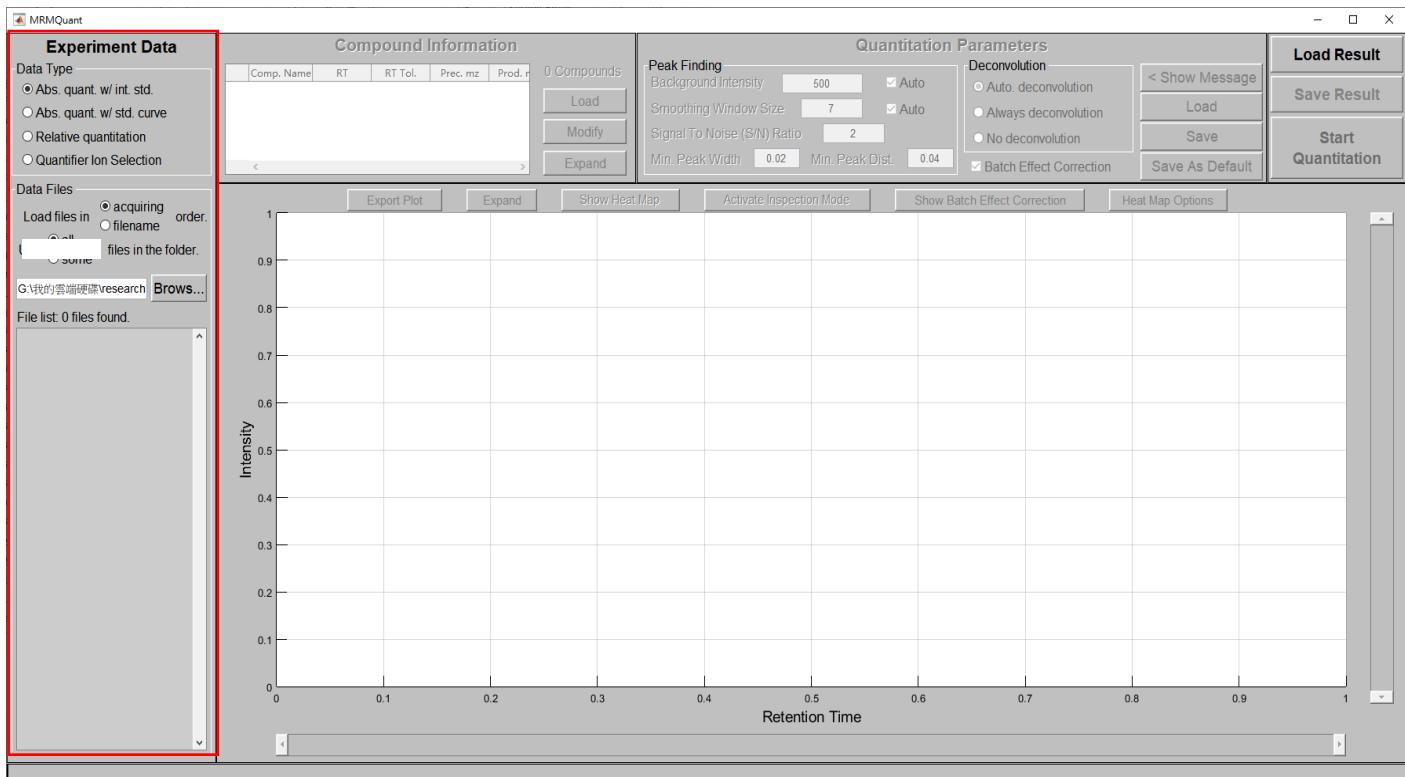

Figure 2. The graphical user interface of MRMQuant and the Experiment Data panel.
Figure 2 illustrates the workflow of MRMQuant. Briefly, the quantitation procedure starts from selecting a suitable experiment type followed by loading MRM sample files and a method file which provides the necessary information about the targeted compounds into the system. After setting the quantitation parameters, peaks in each of the sample files are detected and the ones corresponding to the targeted compounds are quantitated. Once the targeted compounds being quantitated in all the sample files, batch effect correction will be conducted if quality control (QC) samples are included in the sample files. Afterward, quantitation result is displayed for inspection and manual correction of the quantitated peaks can be made
Figure 2. System Flowchart. The gray boxes in the right-hand side list the detailed functions in the peak quantitation and in the manual correction modules, respectively.
MRMQuant can be invoked by two methods, depending whether MATLAB has been installed in your computer. All the required files can be downloaded from <https://github/MRMQuant>. If MATLAB is not installed in your computer, download the files from the executable files from <https://github/MRMQuant/program/executable>. Double click on the "MRMQuant.exe" file in the folder to start MRMQuant, as shown in Figure 1(a). On the other hand, if MATLAB has already in your computer, download the MATLAB files from https://github/MRMQuant/program/MATLAB_source_code and then start MATLAB and run MRMQuant.m (as shown in Figure 1(b)) in the MATLAB editor. A graphical user interface should appear as shown below. At this stage, the **Experiment Data** panel will be activated for users to input MRM data-related information, as indicated by the red block in Figure 2.